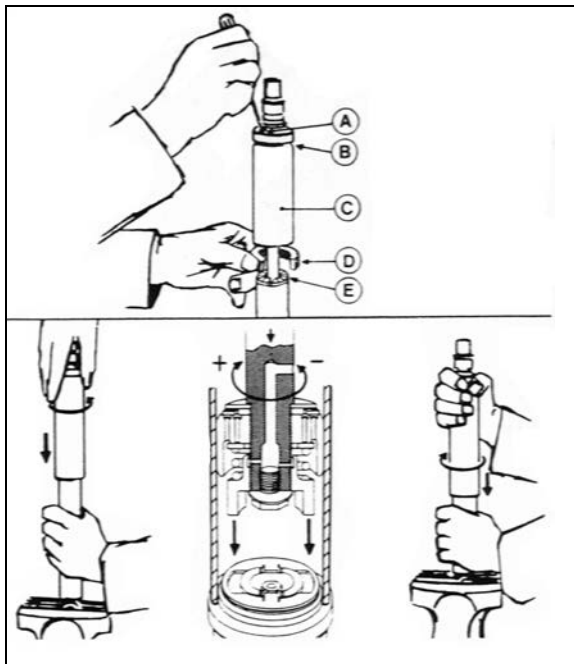

FIGURE 26: DAMPER
To adjust opening and closing cycle speed on damper (Figure 26):
2. Fully close the damper while turning the dust cap or piston rod slowly CCW until it is felt that the cams of the adjusting nut engage in the recesses of the foot valve assembly (Figure 26).
In Figure 26, if there is an indentation (B) in the dust cap (C) and the cover shows two holes (A), the damper is fitted with a bump rubber (D). If so, fully extend the damper and insert a round bar or screwdriver through the holes. Push the bump rubber down and remove. Remove the split plastic collar (E) (if fitted) from the piston rod.
Where a bump rubber was installed, refit same inside the dust cap and by fully closing the damper, the rubber will seat again at top of the dust cap. Refit the split plastic collar E (Figure 26)
3. Remove the Allen button head screw and the washer retaining the ball and socket rod to the upper hinge. See Figure 26.
3. Remove the Allen button head screw and the washer retaining the rod end with bearing to upper hinge. See Figure 26.